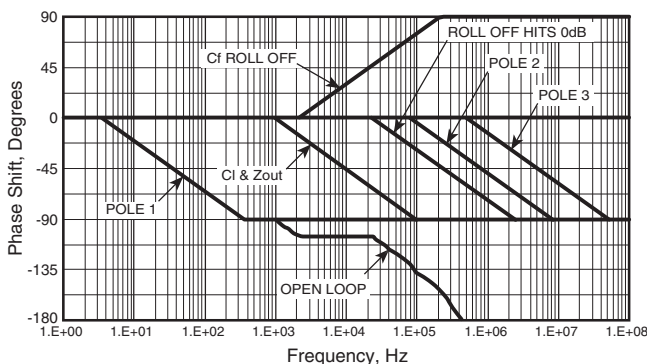

FIGURE 35.
STEP 5: The booster stage of the composite must be stable before we consider the overall composite amplifier. Booster circuit data was entered into the Cload sheet of the Apex Microtechnology Power Design spreadsheet. Initial indications were an intersection rate of 40dB per decade and a phase margin of only 19° . Figure 34 shows Power Design has already added the 150Ω amplifier output impedance to the 15Ω current limit resistor and calculated the pole with the capacitive load to be at 9.6KHz. The booster stage was compensated with C_f producing a closed loop pole (a feedback zero) at 21.3KHz. Do not be confused by sub-Hertz or multi-GHz entries in the table; these show up because the spreadsheet avoids division by zero errors by forcing extremely small values for non-existent capacitors. Refer to Figure 35 to see phase contributions of all elements added, closure frequency of 75KHz, closure rate of 20dB per decade, and a phase margin of 52° .